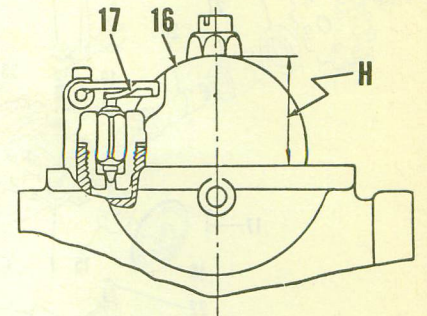
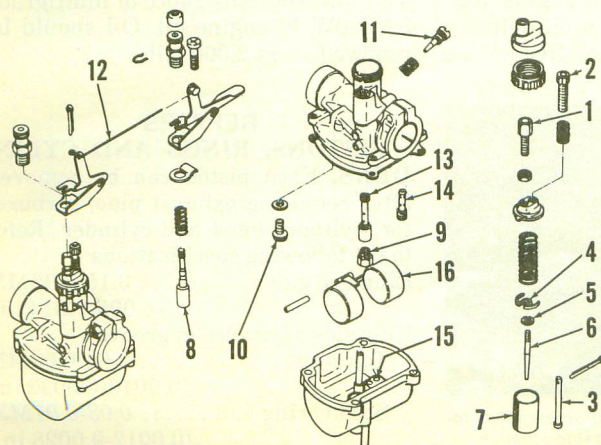

Fig. Y8-2—Float level (H) is adjusted by bending tang (17).
Fig. Y8-1—Exploded view of Mikuni VM carburetor. Starting valves for both carburetors are connected with rod (12).
**CARBURETORS.** Two Mikuni VM carburetors are used. Idle speed should be set at approximately 1,200 rpm by turning adjusters (2—Fig. Y8-1). Make
Float level (H—Fig. Y8-2) should be 25.4MM (1 in.) and is adjusted by bending tang (17) on float. Refer to Fig. Y8-1 and the following standard specifications:
- Main jet (9) ..... #160 or 170
- Pilot jet (14) ..... #30
- Needle jet (13) ..... 0-2
- Valve needle (6) ..... 5D1
- Clip (5) in second or third groove from top of needle (6).
cable guides (1—Fig. Y8-1) are correctly set. To adjust the throttle cable guides, turn the idle speed adjusters (2) all the way down, then synchronize cable guides (1) so that both throttle slides (7), begin to move at exactly the same time when the hand grip is turned. The throttle cables should have approximately 1/16-inch free play after they are synchronized. Adjust the idle speed to 1,100-1,300 rpm by turning both idle adjusters (2). Make certain that both throttle slides stop at exactly the same time. Turn the throttle hand grip just enough to take up free play from the throttle cables (without changing idle speed) and check the oil pump setting mark and guide pin as shown in Fig. Y8-5. If the mark (1) is not exactly aligned with guide pin (2); loosen the lock nut and turn the pump cable adjuster (3) as required to align.